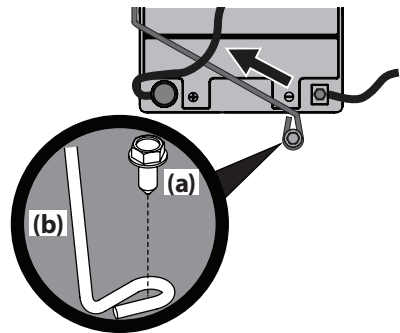

Figure 15
NOTE: Wiring harness should lay on top of battery hold down rod, otherwise damage to the wiring harness may result. See Figure 15 on page 11.
3. Remove the hex washer screw (a) securing the battery hold down rod (b) to the frame. Then flip the battery hold down rod (b) up to free the battery. See Figure 15.